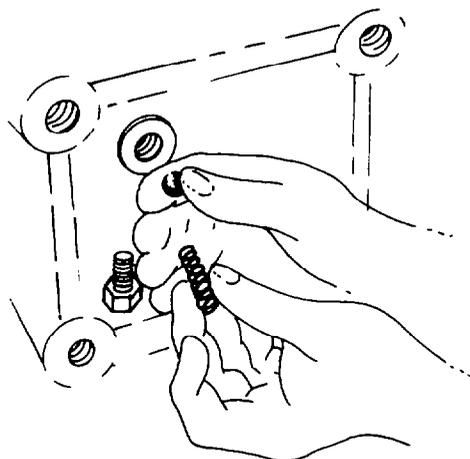

Fig. 233 — Removing the Detent Ball and Spring
- y. Remove the selector shaft detent ball retaining bolt which is located at the right-hand mounting pad. Remove the detent ball spring, and with the aid of a magnet remove the detent ball (see fig. 233).